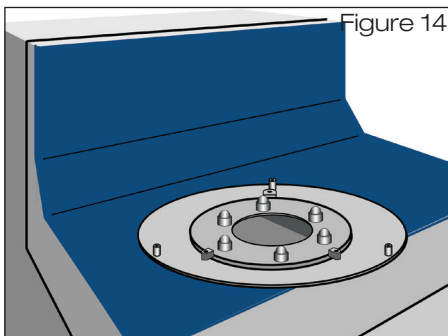

Figure 14
2.6 Place the plastic hexagonal M 12/ 19 AF caps provided onto the threaded bolts (Fig. 14 or 14A).